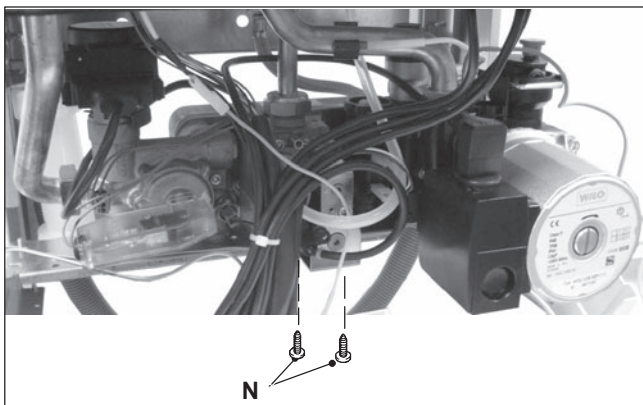

Figure 11.10
- 6 Unscrew the screws N and remove the valve (Figure 11.10).